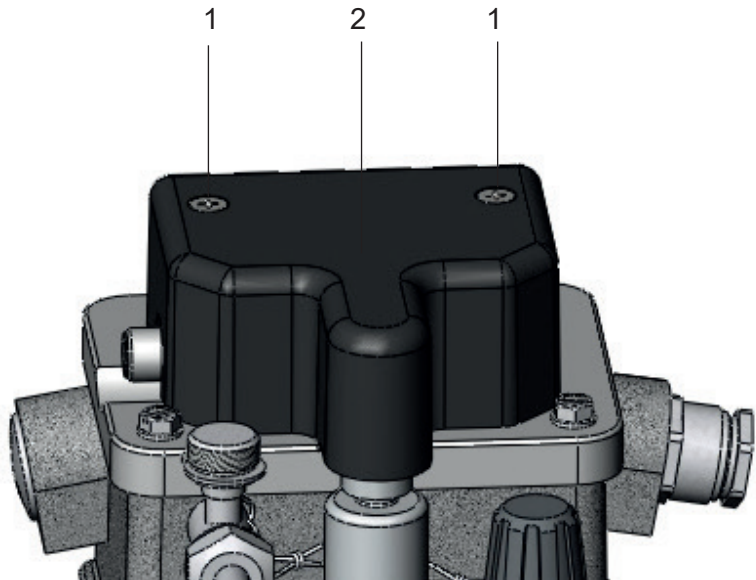

Figure 4 - Cover with dust hood
- Remove 2 screws M5 (Fig. 4/ N° 1)
- Remove the dust hood (Fig. 4/ N° 2)